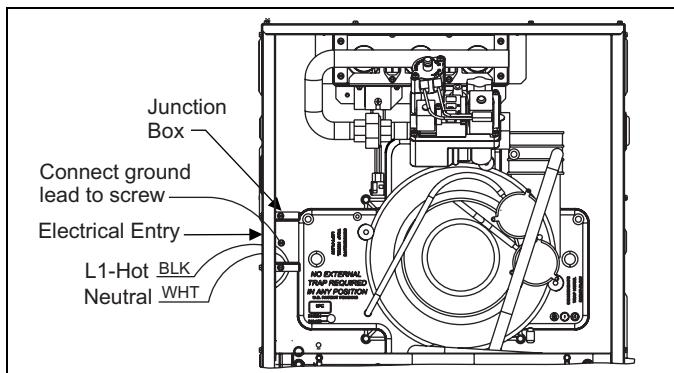

FIGURE 17: Electrical Wiring
- Remove the wiring box cover screws. Route all power wiring through a conduit connector or other proper bushing that has been installed into the unit opening and the junction box. In the junction box there is a black wire, a white wire and a green ground screw. Connect the power supply as shown on the unit's wiring label located on the inside of the blower compartment door, or the wiring schematic in this section. Connect the black wire to L1 (hot) from the power supply. Connect the white wire to neutral. Connect the ground wire (installer-supplied) to the green (equipment ground) screw. An alternate wiring method is to use a field-provided 2" (5.1 cm) x 4" (10.2 cm) box and cover on the outside of the furnace. Route the furnace leads into the box using a protective bushing where the wires pass through the furnace panel. After making the wiring connections replace the wiring box cover and screws. Refer to Figure 17.
- The furnace's control system requires correct polarity of the power supply and a proper ground connection. Refer to Figure 17.